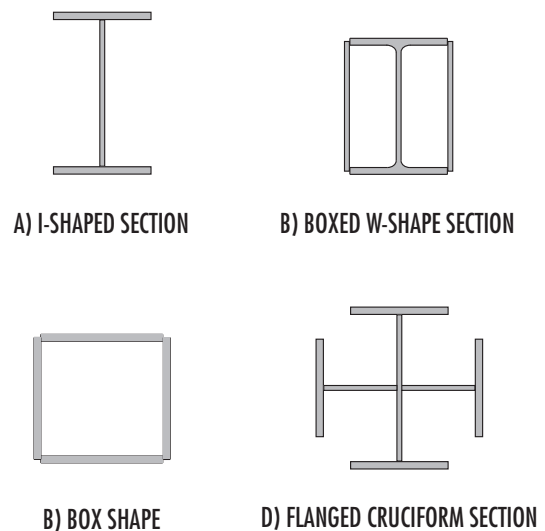

FIGURE 3 – COLUMN SHAPES
- Box-shape, cruciform-shape and deep W-shape columns (See Figure 3);